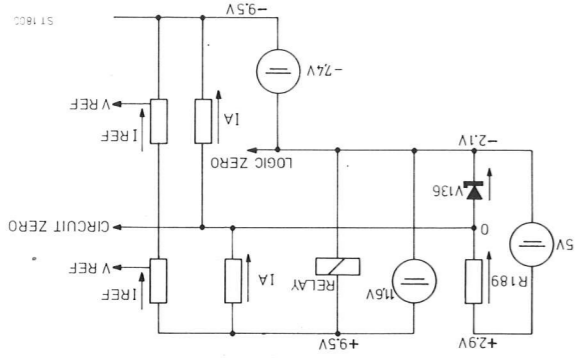

Fig. 26. Power supply principle
7.1.3. **Power supply (Fig. 26, page 60)**
The logic 5 V is derived from the -2.1 V (logic 0) and +2.9 V supplies; i.e. across resistors R189, V136. The principle of this balanced supply is shown in figure 26.